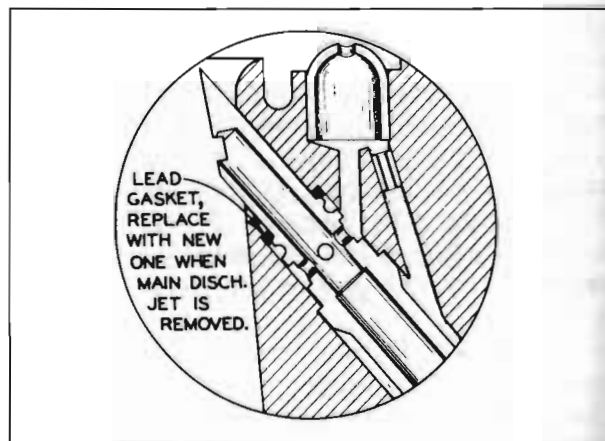

Figure 3-78—Position of Main Discharge Jet and Gasket
7. Place new lead gaskets over beveled ends of main discharge jet. Use Jet Remover T-24967 to install jets in main body, being careful to position jets so that flat surface is parallel with the direction of air flow. See figures 3-78 and 3-73.